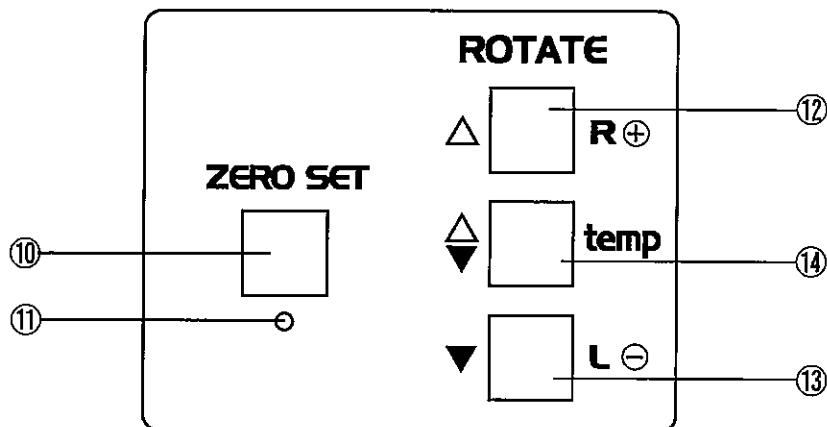

Fig. 3-3
(3) Operation panel (Figure 3-3)
⑩ ZERO SET switch: